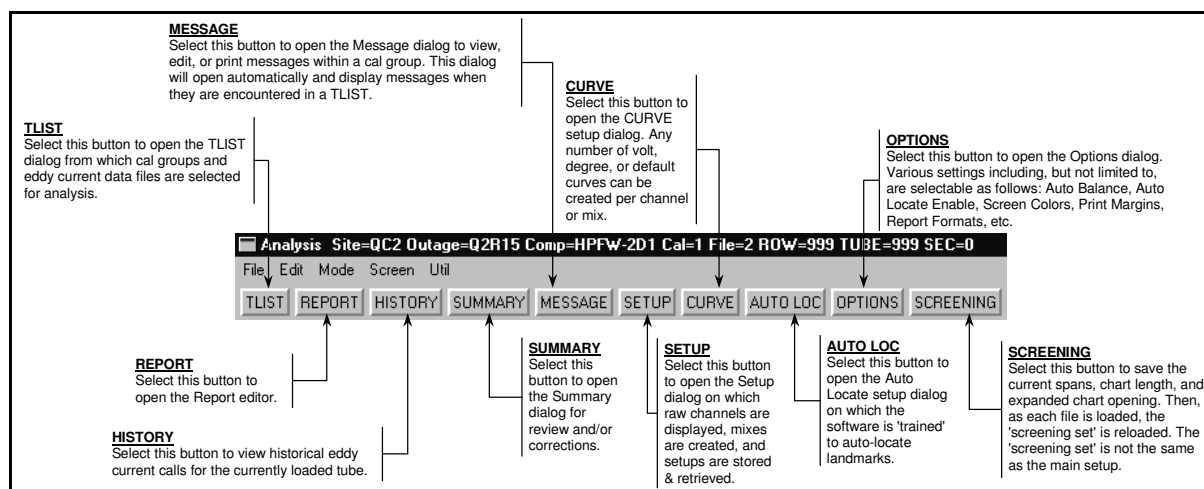
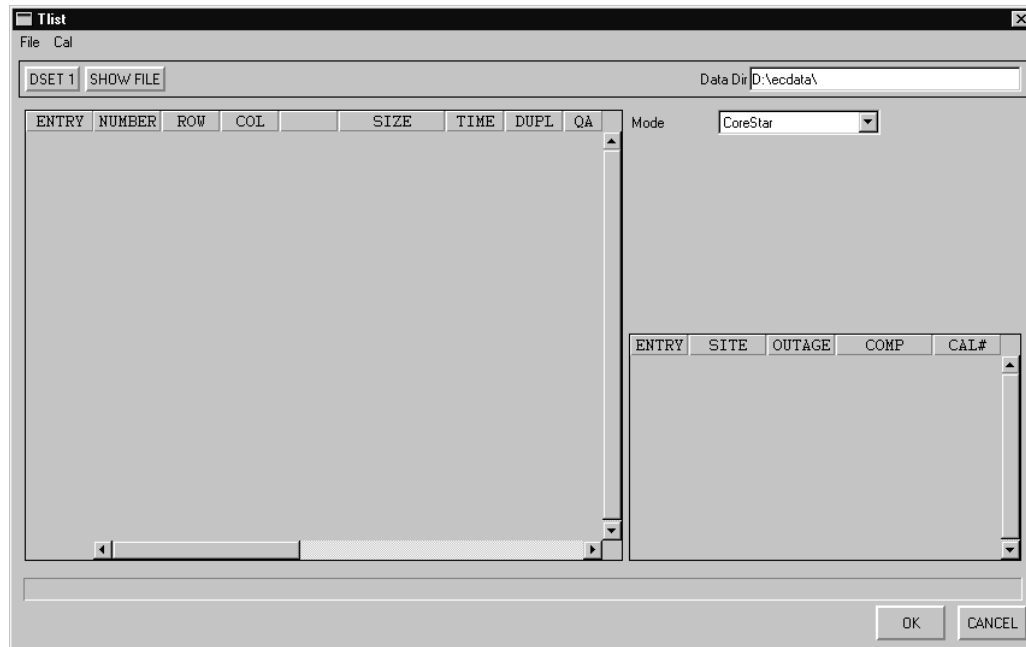
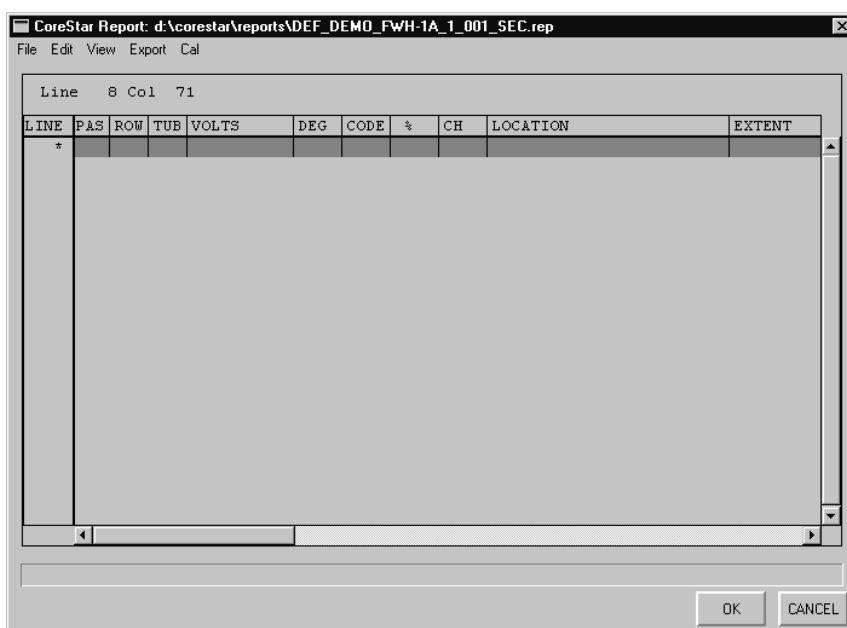

Figure 3-40. Special Purpose Buttons
Figure 3-41. TLIST Dialog
Figure 3-55. Report Editor Dialog
This topic will discuss the purpose and use of each specialized button located along the top of the main analysis window immediately below the pull-down menus. Review Figure 3-40 for a brief description about the purpose of each button.
Selecting the **TLIST** (*short for Tube List*) button in Figure 3-40 causes the dialog shown in Figure 3-41 to appear. This interface is used to:
Selecting the **REPORT** button shown in Figure 3-40 causes the **Report Editor** dialog shown in Figure 3-55 to appear. This interface is used to:
The **Report Editor** dialog contains a menu bar with five (5) selections as shown in Figure 3-55. They are: **File**, **Edit**, **View**, **Export**, and **Cal**. These menu selections and the choices under each one are discussed in the following topics.